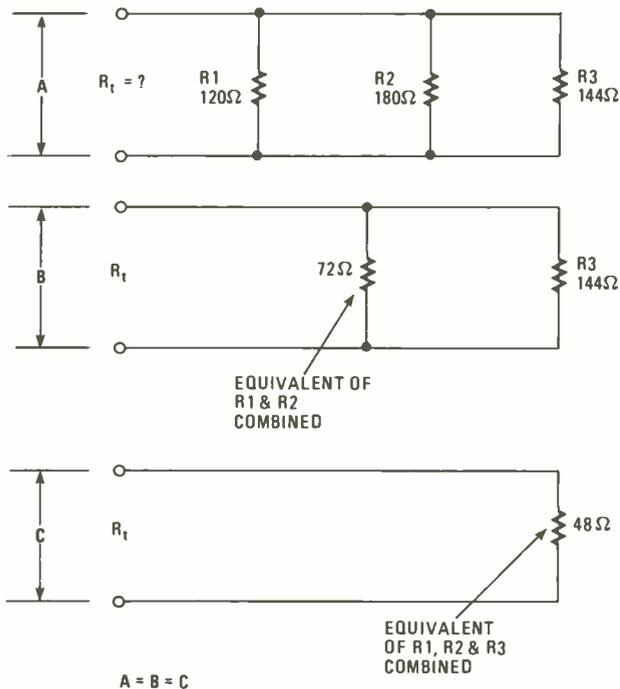

Fig. 10—This problem is harder because there are three branches. What's the value of R_t ?
23. (50) You can use the two resistor formulas given above to compute the total resistance in circuits with three or more resistors. You just combine the resistors two at a time. The circuit in Fig. 10 illustrates this idea.